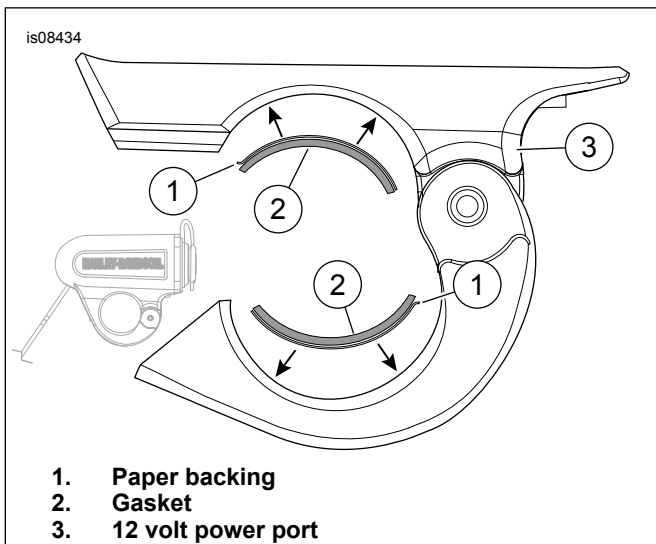
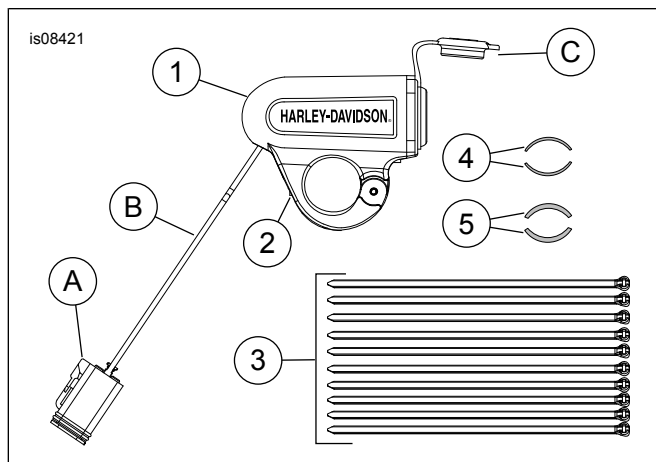

Figure 1. Backing, Gasket and 12 Volt Power Port
Figure 3. Service Parts: Handlebar 12 Volt Power Supply
See Figure 3 and Table 2.
5. See Figure 3 and Table 2.
- a. For 7/8 in. handlebars, install thick gaskets (5) from kit.
- b. For 1 in. handlebars, install thin gaskets (4) from kit.
6. See Figure 1. Peel paper backing (1) from gasket (2). Install gaskets onto inside of 12 volt power port (3).
7. See Figure 3. Position power port in desired location. Place screw (2) in position. Do not fully tighten now.
- a. See Figure 3. Cut off six pin connector (A).
- b. Strip .375 in (9.5 mm) of insulation from each wire on harness (B).
- b. See Figure 3. Remove socket cover (C).
- c. See Figure 3. Strip back wires and install terminals from kit (69201750) to harness (B). See service manual.
14. **All Other Models:** See Figure 3. Remove dust cover from accessory connector. Plug 12 volt connector into six-pin connector (A).
15. Secure harness (B) with cable straps (3). Extra or loose harness (B) can be coiled securing with cable straps